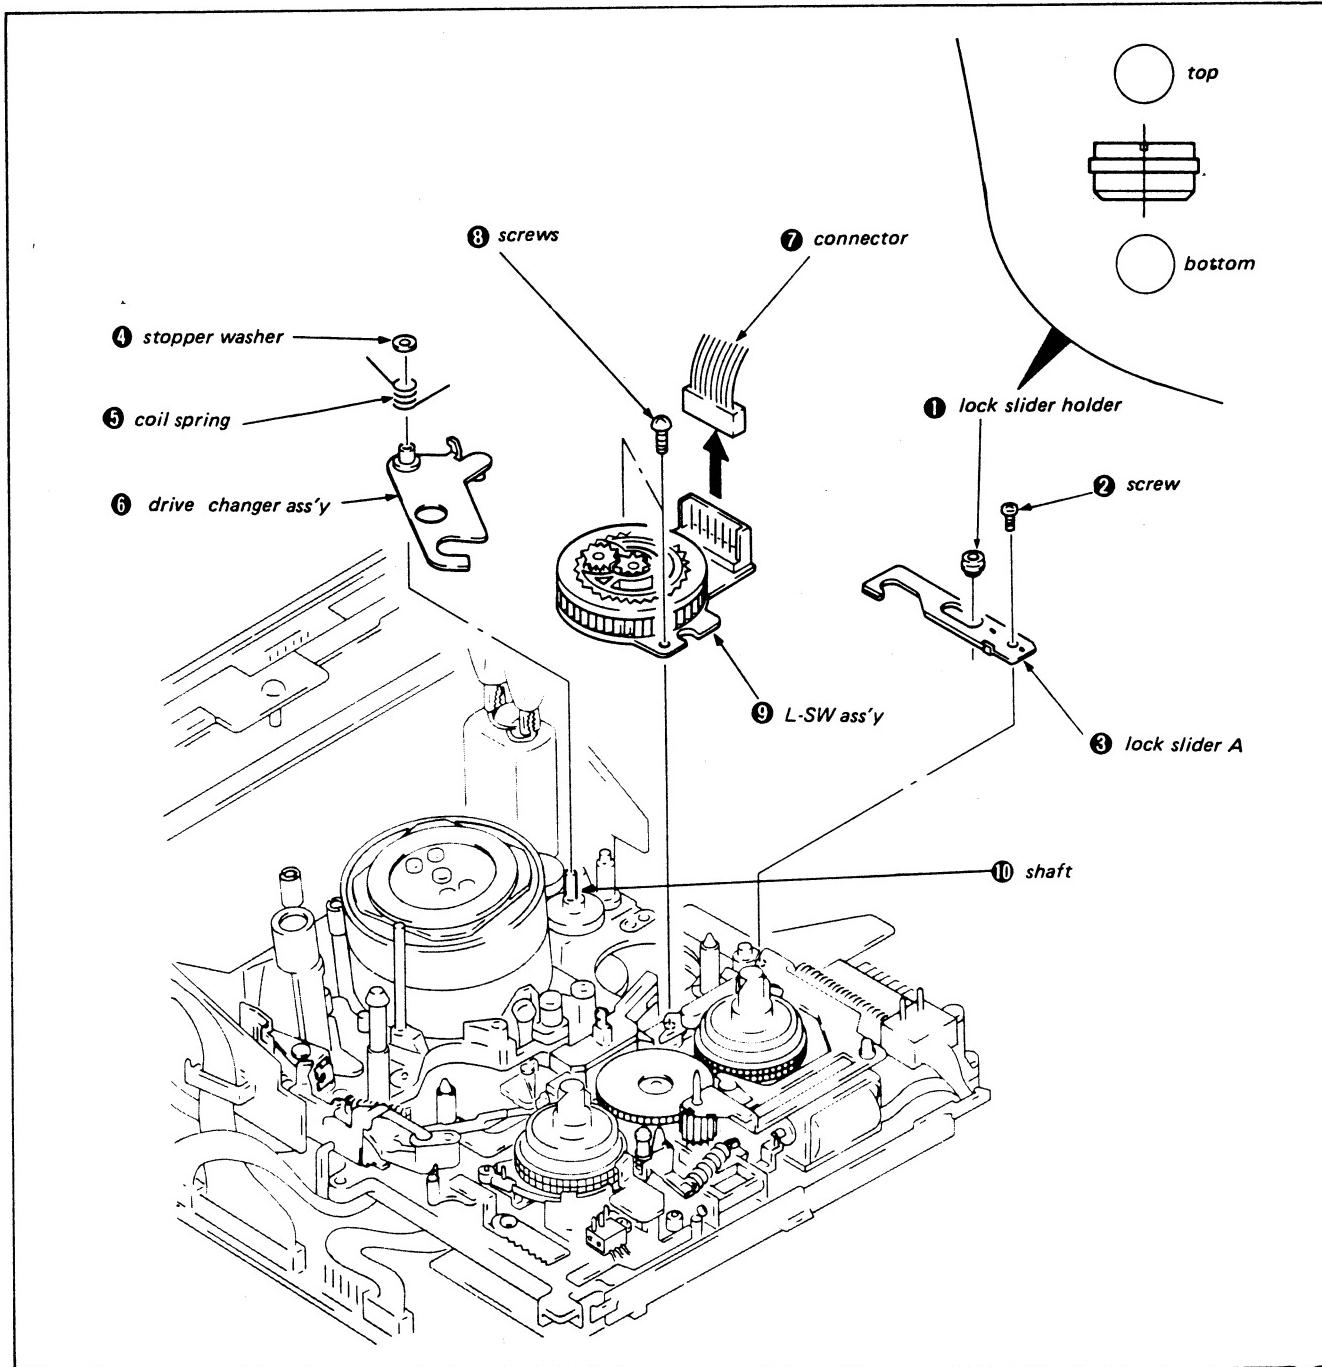

Fig. 3-29.
(Refer to Fig. 3-29)
- 7) Mount the drive changer assembly ⑥. (See Fig. 3-29)
- 8) Mount the coil spring ⑤ and the stopper washer ④.
- 9) Operate the mode selector and check that the L-SW assembly ⑨ rotates.
- 10) Mount lock slider A ③ and tighten screw ②.
- 11) Mount lock slider holder ①. (Fig. 3-29)